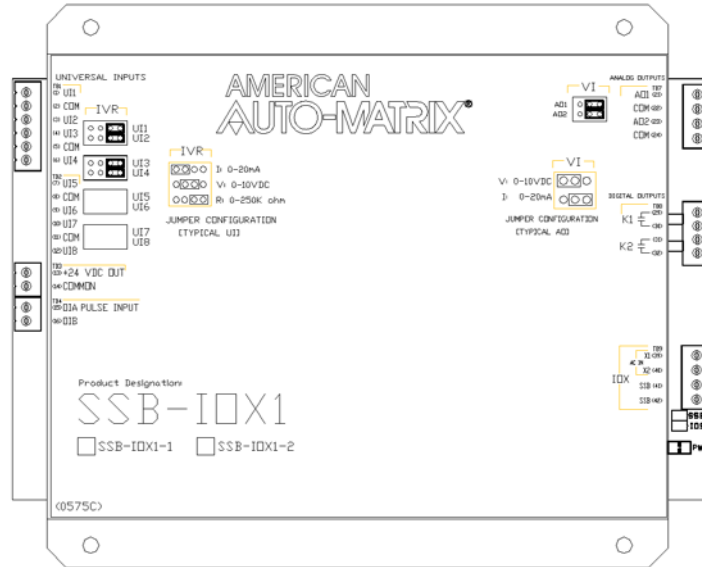

Figure 5-45 : The SSB-IOX1-1 Module
The SSB-IOX1-1, shown in Figure 5-45, is a STATbus module based on the same hardware as the GPC2 controller. It provides four (4) universal inputs, one (1) pulse input, two (2) analog outputs, and two (2) digital outputs.